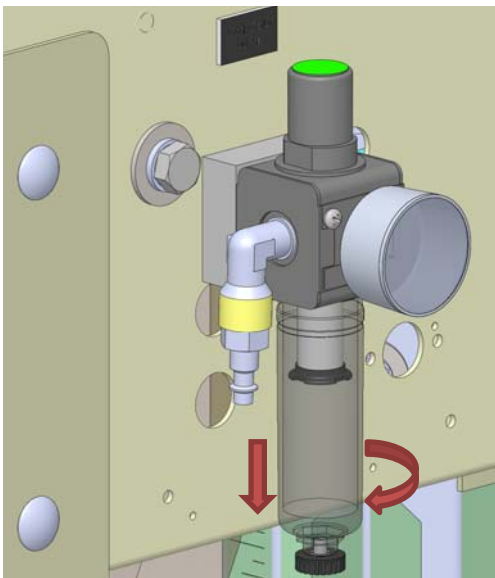

Figure-32B
2. The clear reservoir (**Figure-32B**) has a threaded top which is used to attach it to the main regulator assembly. To remove the reservoir, rotate it until unfastened.